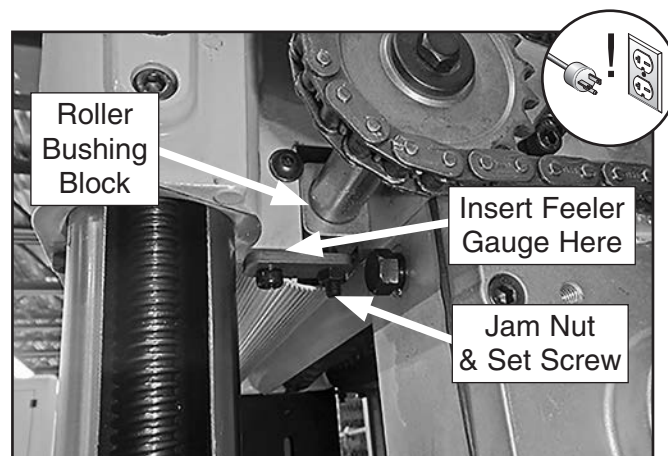

Figure 43. Example of feeler gauge location for adjusting infeed roller height when using wood blocks (one of two locations shown).
9. Loosen jam nuts and set screws on each side of infeed roller (see **Figure 43**).
10. Using a feeler gauge, adjust set screw so it is 0.040" from roller bushing block (see **Figure 43**), then tighten jam nut. Repeat on other side of infeed roller.